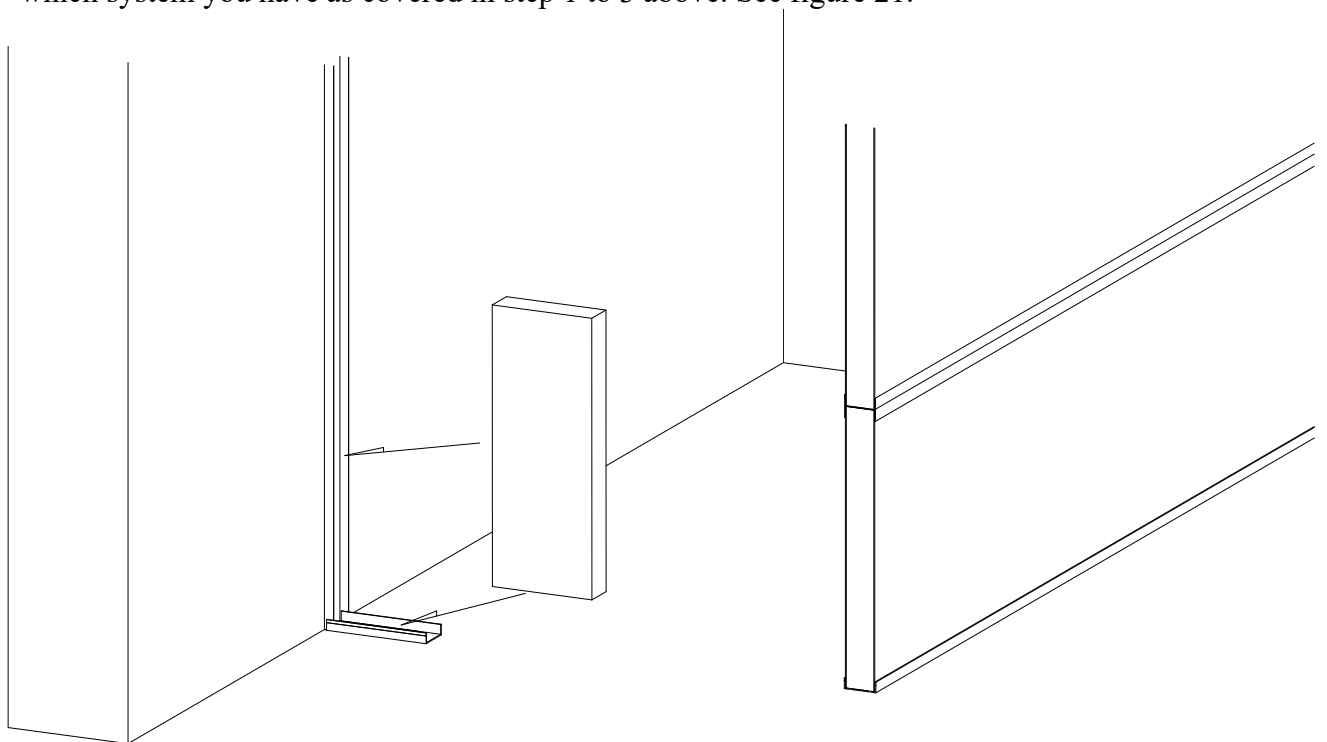

Figure 21
5. Insert the first filler panel in to the "B" and "A" channels or "G" and "A" channels depending on which system you have as covered in step 1 to 3 above. See figure 21.